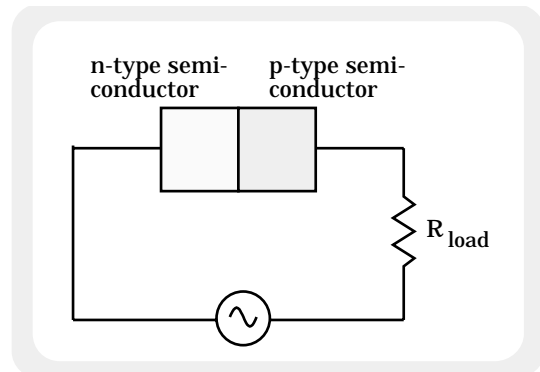

FIGURE 21.4
1.) If a p-type and an n-type semi-conductor are joined together and placed in an AC circuit as shown in Figure 21.4, the following occurs: